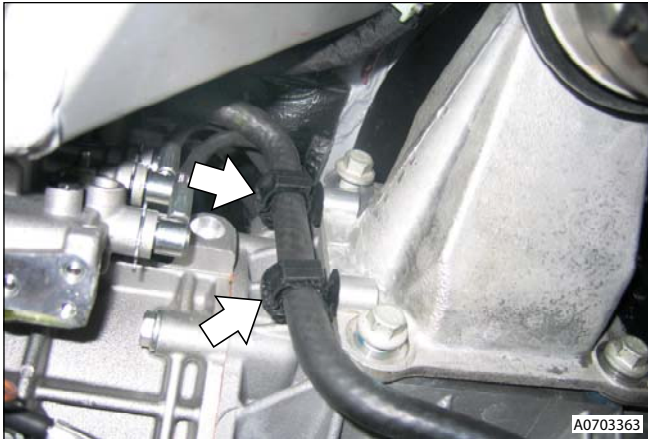

Figure 2
- Release reservoir hoses from transaxle mounting clips (x2) (see Figure 2).